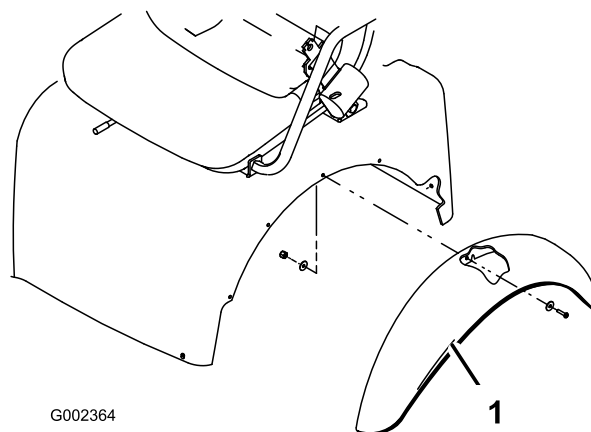

Figure 7
1. Align the five fender mounting holes with the holes in each side of body (Figure 7).
2. Mount a fender to each side of body with (5) #10 x 3/4 in. socket head bolts, (10) flat washers and (5) #10 locknuts. Position a washer next to bolt head and locknut.